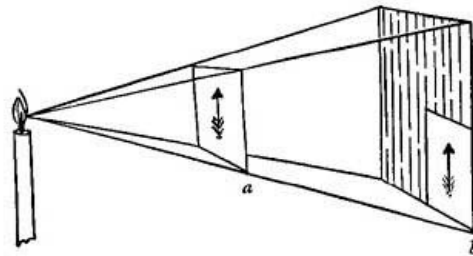

FIG. 57.—A photograph at *a* receives four times as much light as when held at *b*.
**100. Fading Illumination.** The farther we move from a light, the less strong, or intense, is the illumination which reaches us; the light of the street lamp on the corner fades and becomes dim before the middle of the block is reached, so that we look eagerly for the next lamp. The light diminishes in brightness much more rapidly than we realize, as the following simple experiment will show. Let a single candle (Fig. 57) serve as our light, and at a distance of one foot from the candle place a photograph. In this position the photograph receives a definite amount of light from the candle and has a certain brightness.